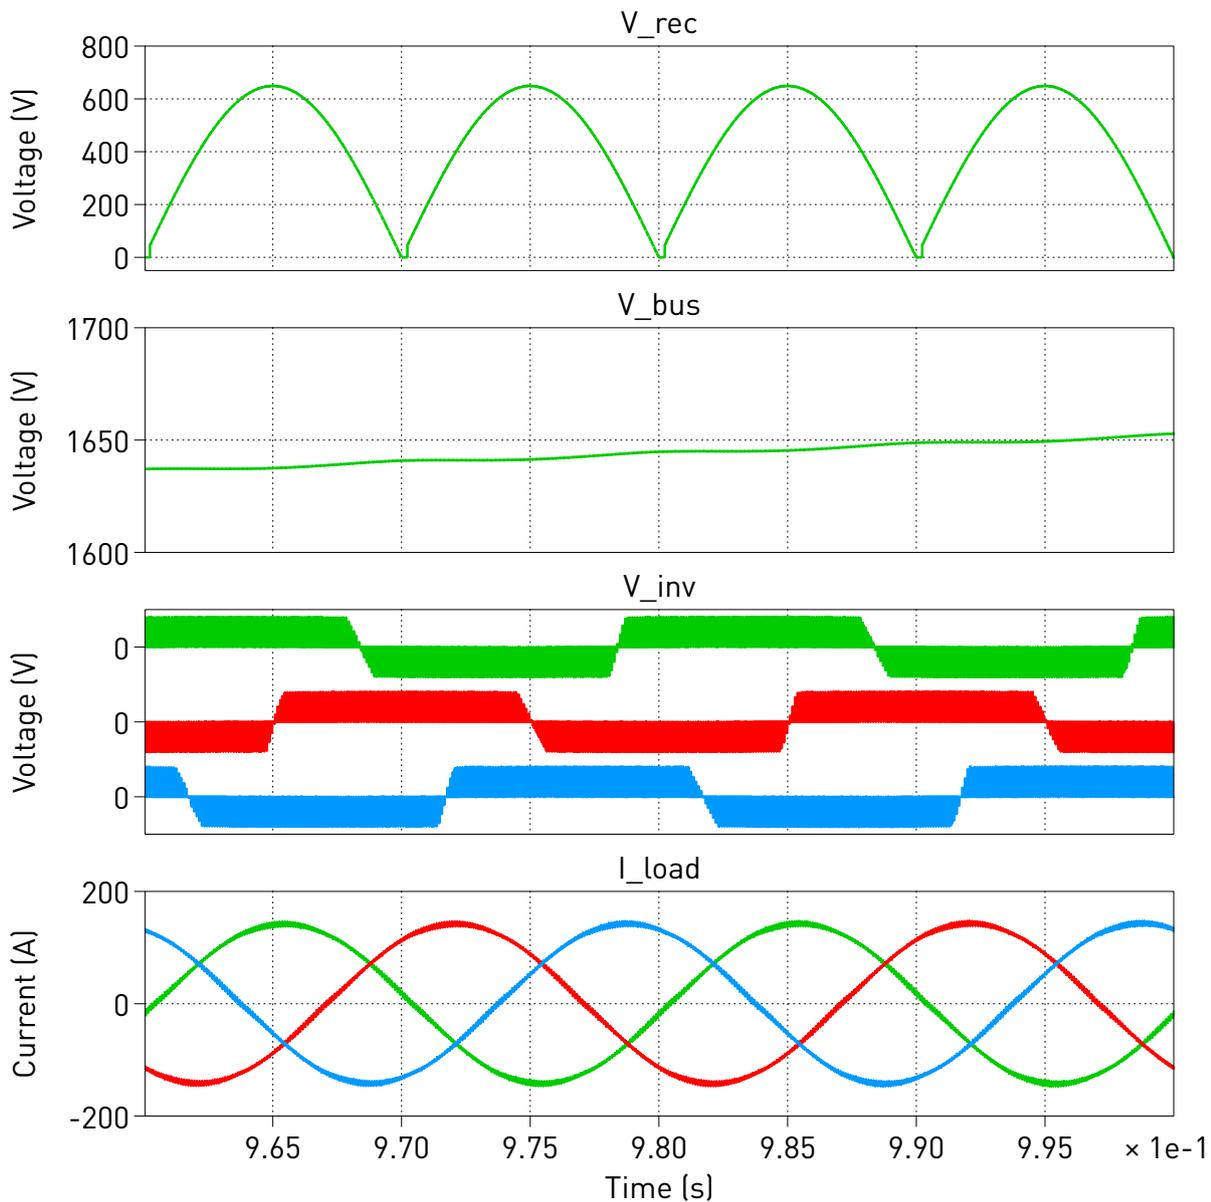

Figure 3: Simulation results of the rectifier and inverter system
- Run the simulation and observe the key waveforms in the Scope. They should look like in Fig. 3.
- 5 Run the PLECS simulation. Observe the Scope waveforms inside each subsystem. These should show similar results as the Scope in the unified system model in Fig. 3.
- ❓ Once both Boxes are running, click **Connect** under the **External Mode** tab for each Box, then click **Activate autotriggering** to observe the real-time waveforms in the Scope. They should show similar results to the ones shown in Fig. 3. Now what is the execution time for each Box?
- 2 For the slave “Inverter” Box, change the **Master for startup/clock** combo box to the `SFP A` option, then check the option **Use clock from master**. Proceed to build each model on each Box, enable external mode on both Boxes, and observe the waveforms again in the Scopes. They should show similar results to the ones shown in Fig. 3.
- 5 Enable external mode on both Boxes, and again check the running waveforms inside the Scopes. They should show similar results to the ones shown in Fig. 3.